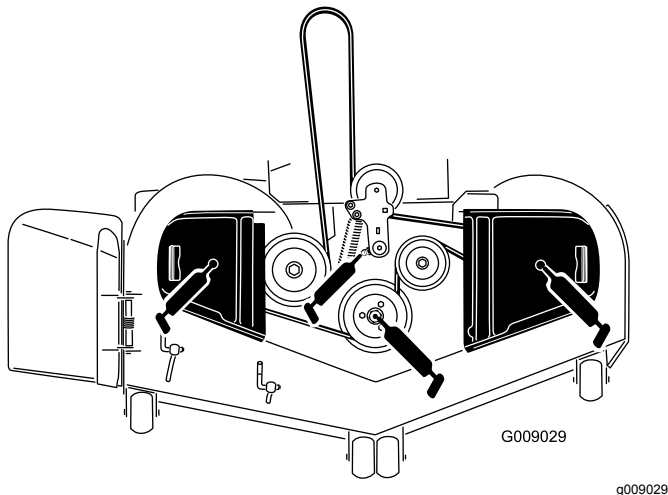

Figure 39
3. Grease the mower-deck idler-pulley pivot until grease come out the bottom (Figure 39).
4. Grease the 3 spindle bearings until grease comes out the lower seals (Figure 39).
5. Grease the drive-belt idler arm (Figure 39).